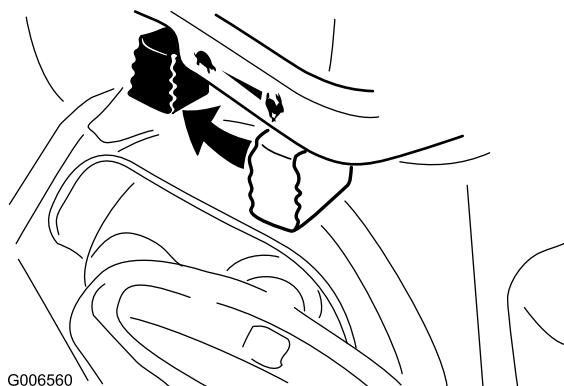

Figure 30
1. Move the throttle to the Slow position, and then to the Stop position (Figure 30).